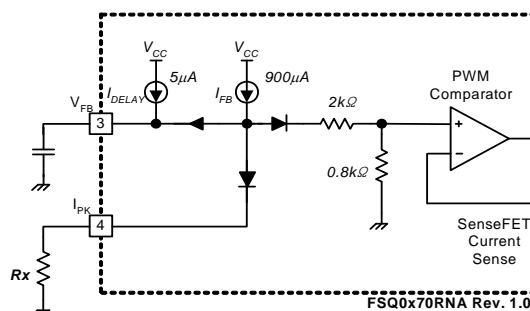

Figure 18. Peak Current Limit Adjustment
7. Adjusting Peak Current Limit: As shown in Figure 18, a combined 2.8kΩ internal resistance is connected to the non-inverting lead on the PWM comparator. An external resistance of R_x on the current limit pin forms a parallel resistance with the 2.8kΩ when the internal diodes are biased by the main current source of 900µA.